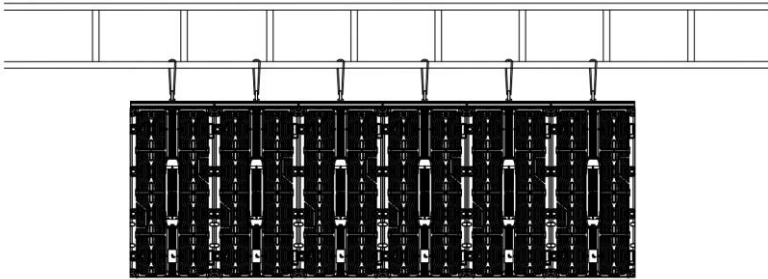

Figure 2-9 Installation of Hanged Cabinets (2)
- 2) Fasten the cabinets sequentially from middle to both sides. These cabinets can be fastened through plug screws to the hanging beam and can be fastened with each other through plug screws, as shown in Figure 2-9.